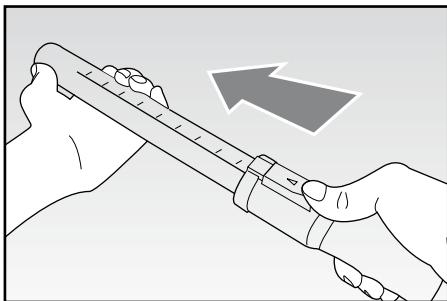

Fig. 4
- Push the slider device (P) forwards and pull the bottom section of the tube out to the required length (Fig. 4). Then simply release the slider and the device will return to its original position.